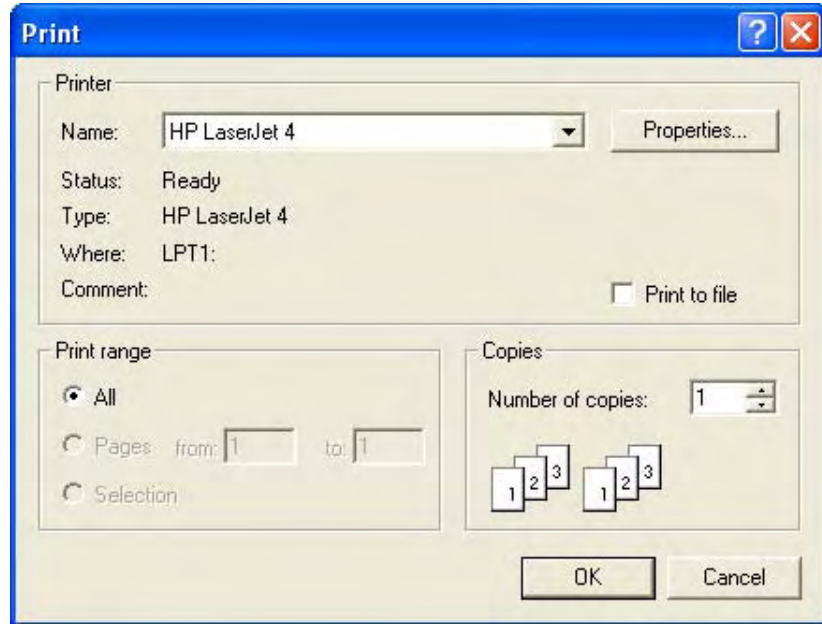

Figure 2.29 System Print Dialog Box
- After you have everything set, click **Print** and the default system **Print** dialog box will open (Figure 2.29). Select the printer, and any other options you wish to set, click **OK**. The report will then be printed on the selected printer.
5. If you like what you see in the **Print Preview** dialog box, you can print by clicking **Print**, which opens the system **Print** dialog box (Figure 2.29), or you can close the **Print Preview** dialog box by clicking **Close**.